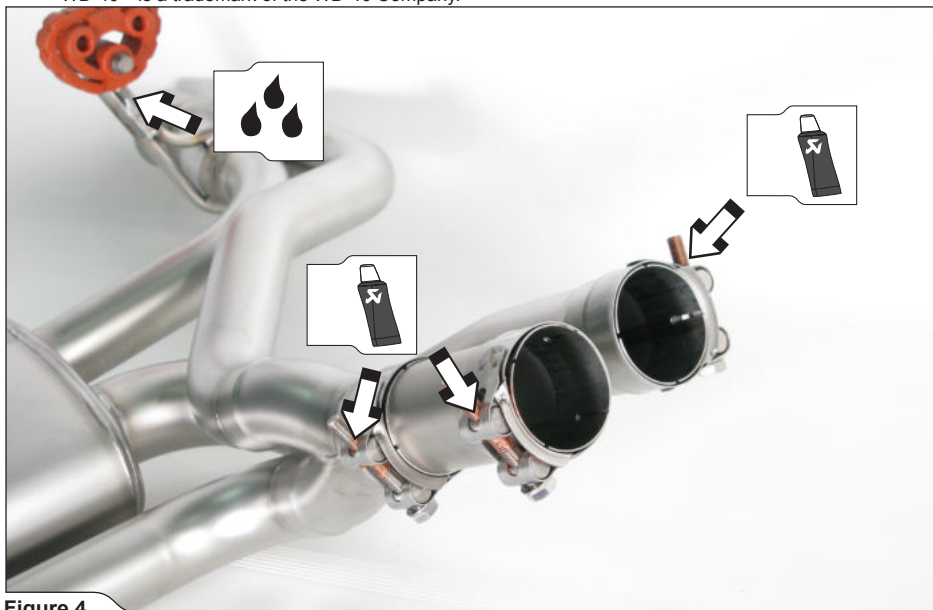

Figure 4
1. Assemble the clamps and link pipe onto the muffler's inlet pipes and original left rubber bracket onto the Akrapovič muffler's left bracket, as shown (Figure 4).